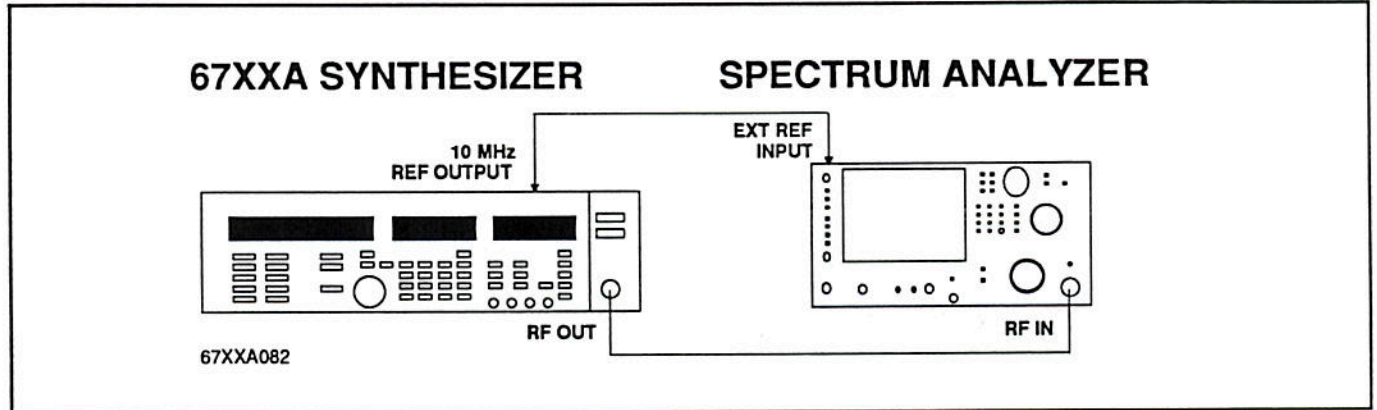

Figure 2-5. Equipment Setup for Spurious and Harmonic Tests: RF Output Signals ≤ 2 GHz
1. Connect the equipment as shown in Figure 2-5.